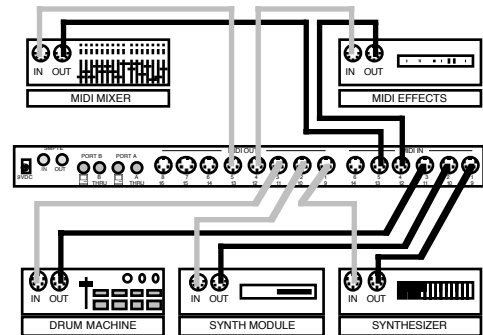

Figure 3.16: MIDI Connections
Connect a MIDI device's MIDI input to a MIDI OUT port on the Studio 4. Connect the like-numbered Studio 4 MIDI IN port to the device's MIDI output. Figure 3.16 shows some typical MIDI connections.
**NOTE:** *If you wish to load patches from a device into Opcode's Galaxy program, you must connect that device's MIDI In and Out ports to identically-numbered ports on the Studio 4 (as shown in Figure 3.16).*